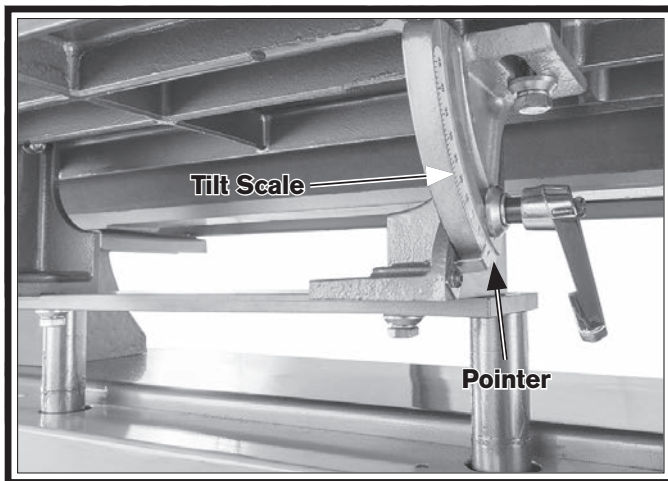

Figure 21. Main table tilt scale and pointer.
9. Tilt main table until pointer on tilt scale indicates 0° (see **Figure 21**).